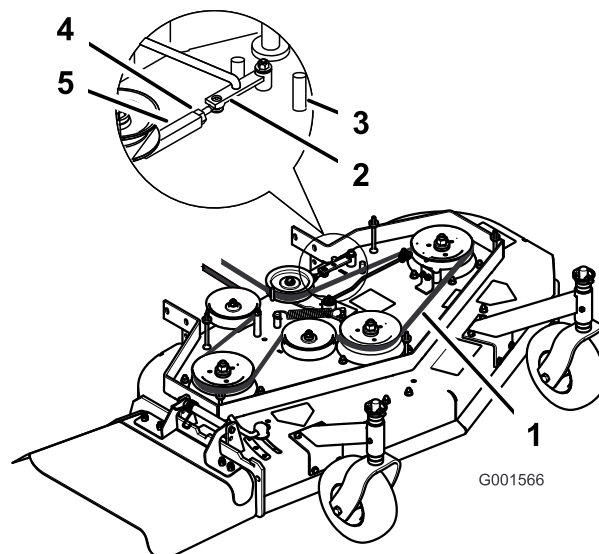

Figure 39
the turnbuckle toward the front of the mower to decrease the tension on the belt (Figure 39).
3. Loosen the locknut on the turnbuckle (Figure 39).